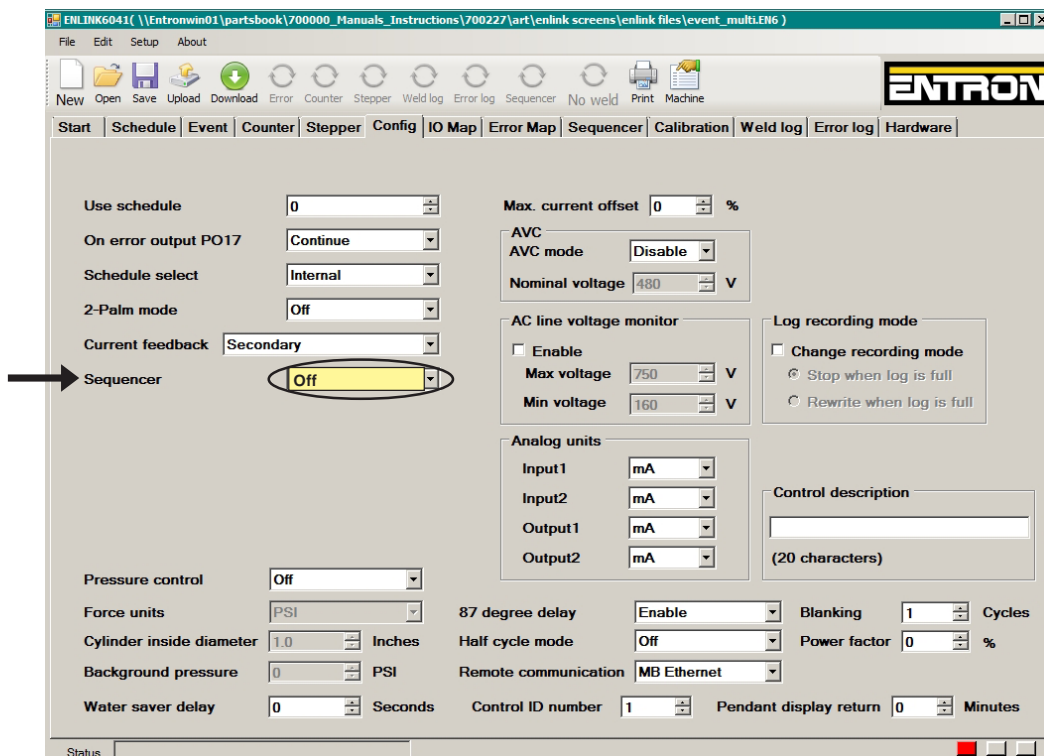

Figure 9-23. Configuration page
B. Make sure SEQUENCER function is Off on Configuration page (Figure 9-23).